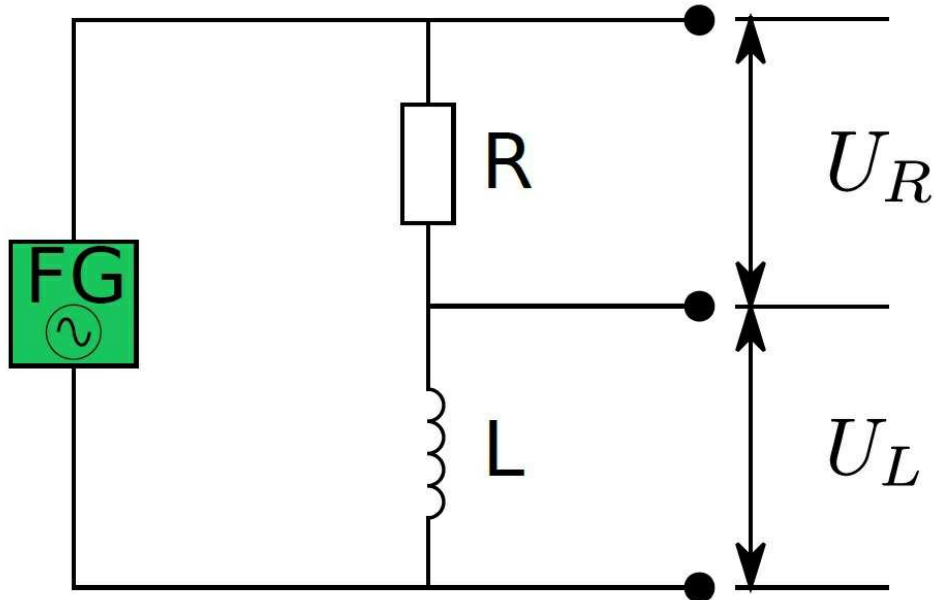

Fig. 2: Circuit for measurement of the coil impedance.
- Disconnect the energy supply and rebuild the circuit according to figure 2. Instead of just one solenoid you will have to use both of them. First, connect them in series so that you will get a series circuit of two solenoids and one resistor. After following the procedure part for task 4 come back and connect the two solenoids in parallel and one resistor in series.
If a coil of inductance L and a resistor of resistance R are connected in a circuit (fig. 2), the sum of the voltage drops on the individual elements is equal to the terminal voltage U :